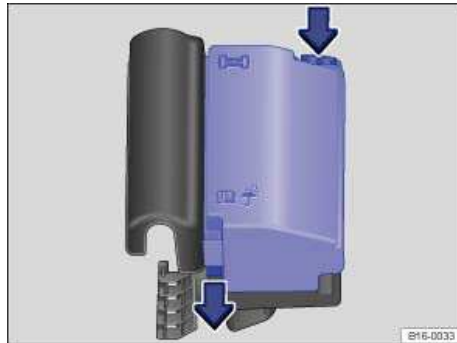

Fig. 214 In the engine compartment: Fuse box cover.
- Move the release tabs in the direction of the arrows ⇒ fig. 214 to unlock the fuse box cover.